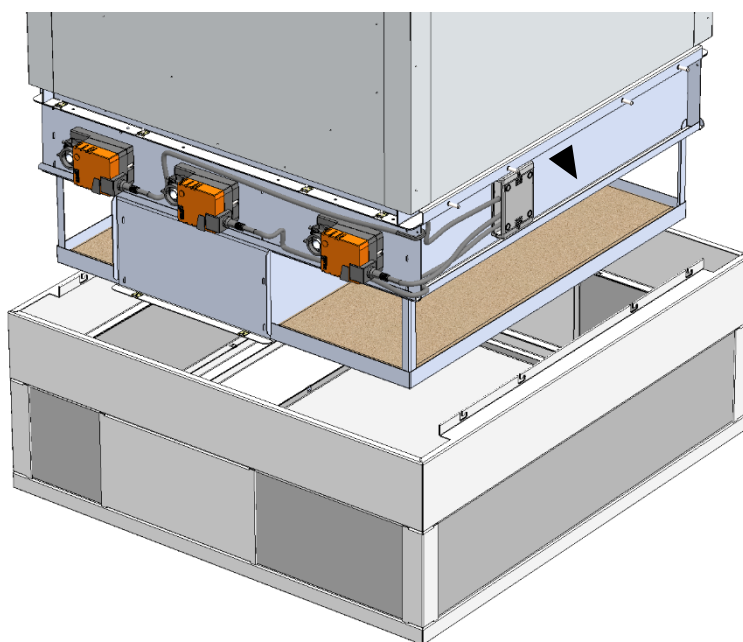

Figure 56 – Diffuser box position.
1. Offer the External Assembly over the Internal Assembly ensuring that it is in the correct orientation by aligning the arrows on both parts – see figure 56.